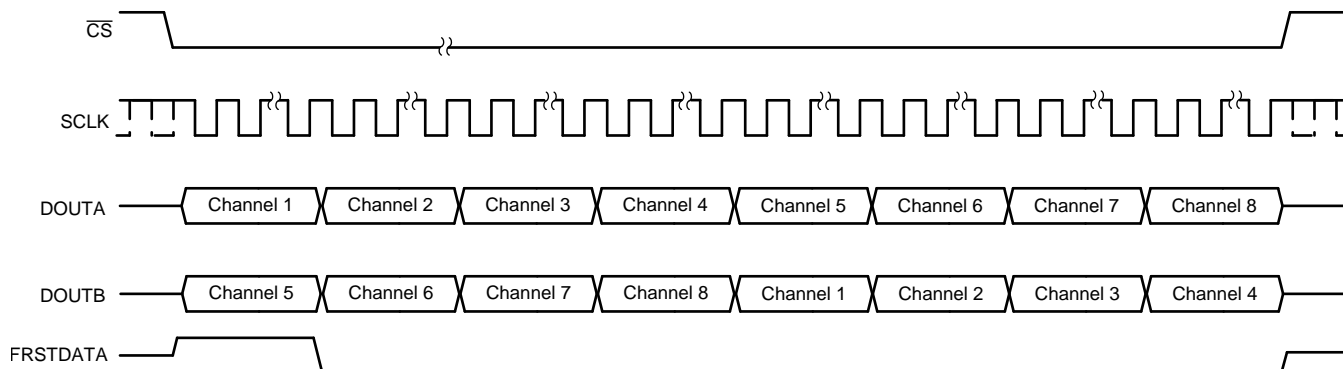

Figure 69. Data Read Back in the Serial Interface Using Either DOUTA or DOUTB Timing Diagram
\overline{CS} pulse or each group of 18 SCLK cycles can be individually framed by the \overline{CS} signal. The primary disadvantage of using just one data line for reading conversion data is that the throughput is reduced if a data read operation is performed after conversion. Figure 69 shows this operation.
- Alternatively, only DOUTB can be used for reading the conversion data from all channels. In this case, everything else remains the same and the output bit stream contains data for all channels in the following order: channels 5, 6, 7, 8, 1, 2, 3, and 4. Figure 69 shows this operation.